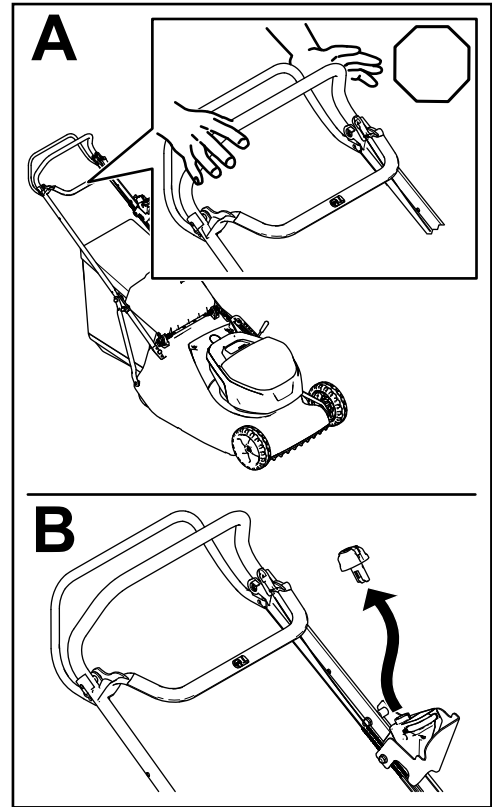

Figure 21
1. Release the blade-control bar (A of Figure 21).
2. Remove the electric-start button from the electric-start switch (B of Figure 21).